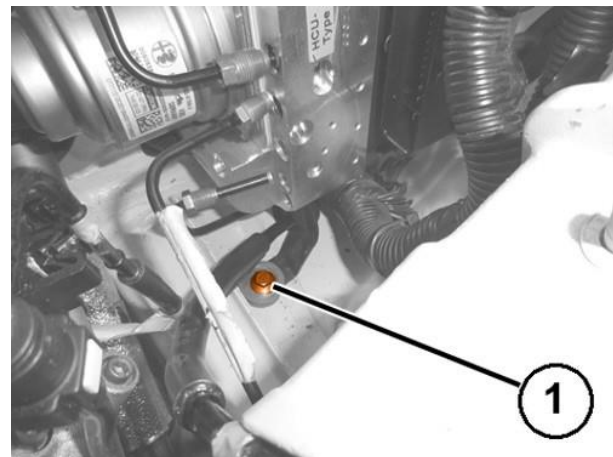

Figure 65 – Mounting Bracket
60. Remove the screw (1) attaching the ABS module mounting bracket to the body (Figure 65).